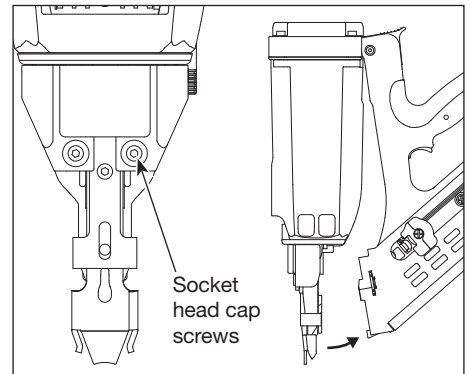

Figure 2
1. Use the 4mm hex key wrench to remove the magazine and handle assembly. Remove the two socket head cap screws from the nose piece (see Figure 2).
2. Pivot the magazine and handle assembly away from the motor assembly (see Figure 2).